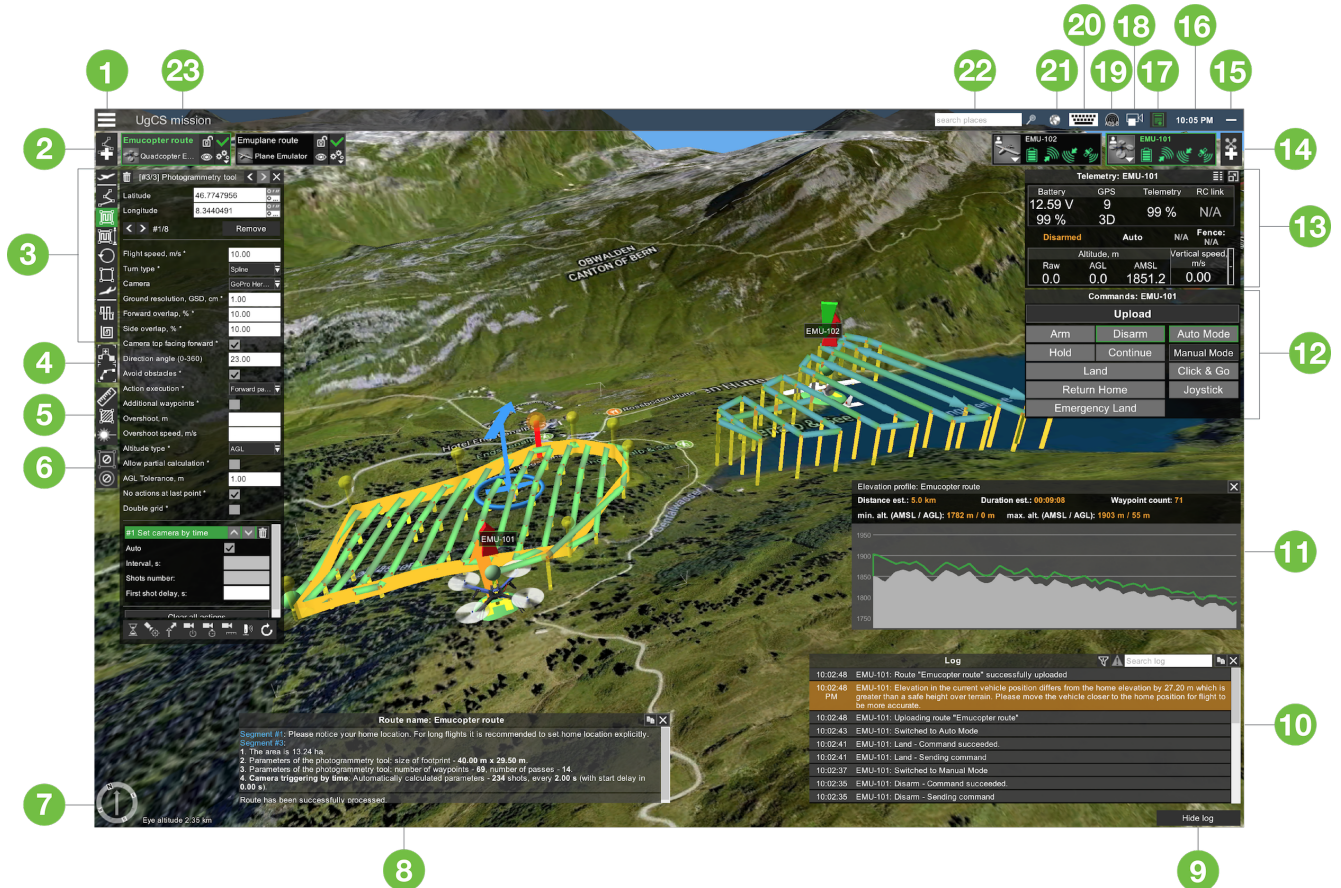

Figure 4 - Mission editor
By default, mission editor is the first window that is displayed after application starts. UgCS version number of applications is displayed in the upper left corner. Please provide the UgCS version number when contacting UgCS support. Please see Figure 4 - Mission editor for more detailed explanation of main functionality.
1. To start planning the route click the Add new route button (see Figure 4 - Mission editor #2);
5. Leave the default parameters at the last step. More information about this window can be found in section “Route parameters and path finding”. To create a route with provided settings click “Ok”. A new route card will be displayed (see Figure 4 - Mission editor #2) with the specified name;
6. To create the route, select any of the Route planning tools (see Figure 4 - Mission editor #3) and add segments on a map by double clicking or “SHIFT+right click”. Each Route's planning tool has associated inspector window enabling to adjust parameters like coordinates, altitude, speed that will be considered during the calculation process. Also, the turn type and camera actions settings can be adjusted;
7. The path-finding algorithm of UgCS will automatically start the calculation of the flight path in a few seconds when user stops editing the route. The status of the calculation will be displayed as the Route’s calculation indicator on the Route’s card (see Figure 4 - Mission editor #2);
8. When the route is successfully calculated (green checkmark) it can be Uploaded to the vehicle. To take off, Arm the vehicle and turn on Auto flight mode (see Figure 4 - Mission editor #2).
Route planning tools are organized as a tool bar (see Figure 4 - Mission editor #3). Usage algorithm for each tool:
Route points placed at the same height relative to the ground. This height is calculated based on camera settings and set GSD value. Calculated parameters (number of passes, number of camera shots, etc.) are displayed in route log window (see Figure 4 - Mission editor). Photogrammetry tool is available for UgCS ONE, UgCS PRO and UgCS ENTERPRISE license.